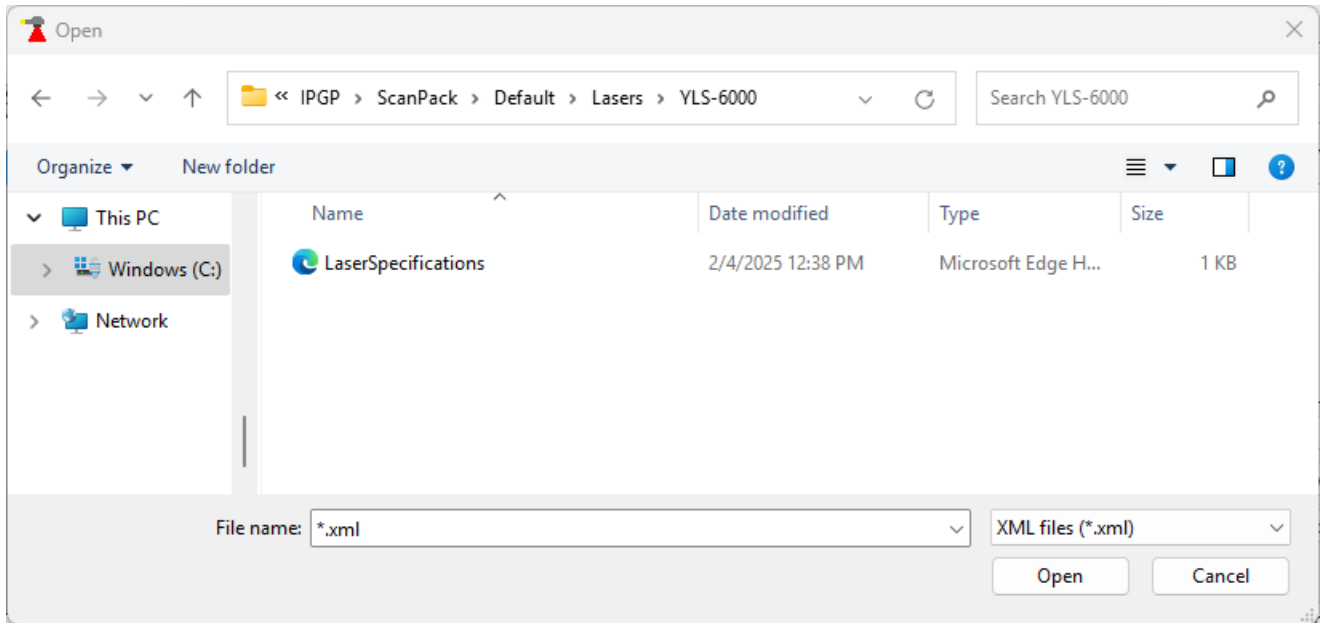

Figure 388: Selecting and Uploading the LaserSpecification File
6. Select the "LaserSpecifications" file and click "Open." See Figure 388 on page 363.